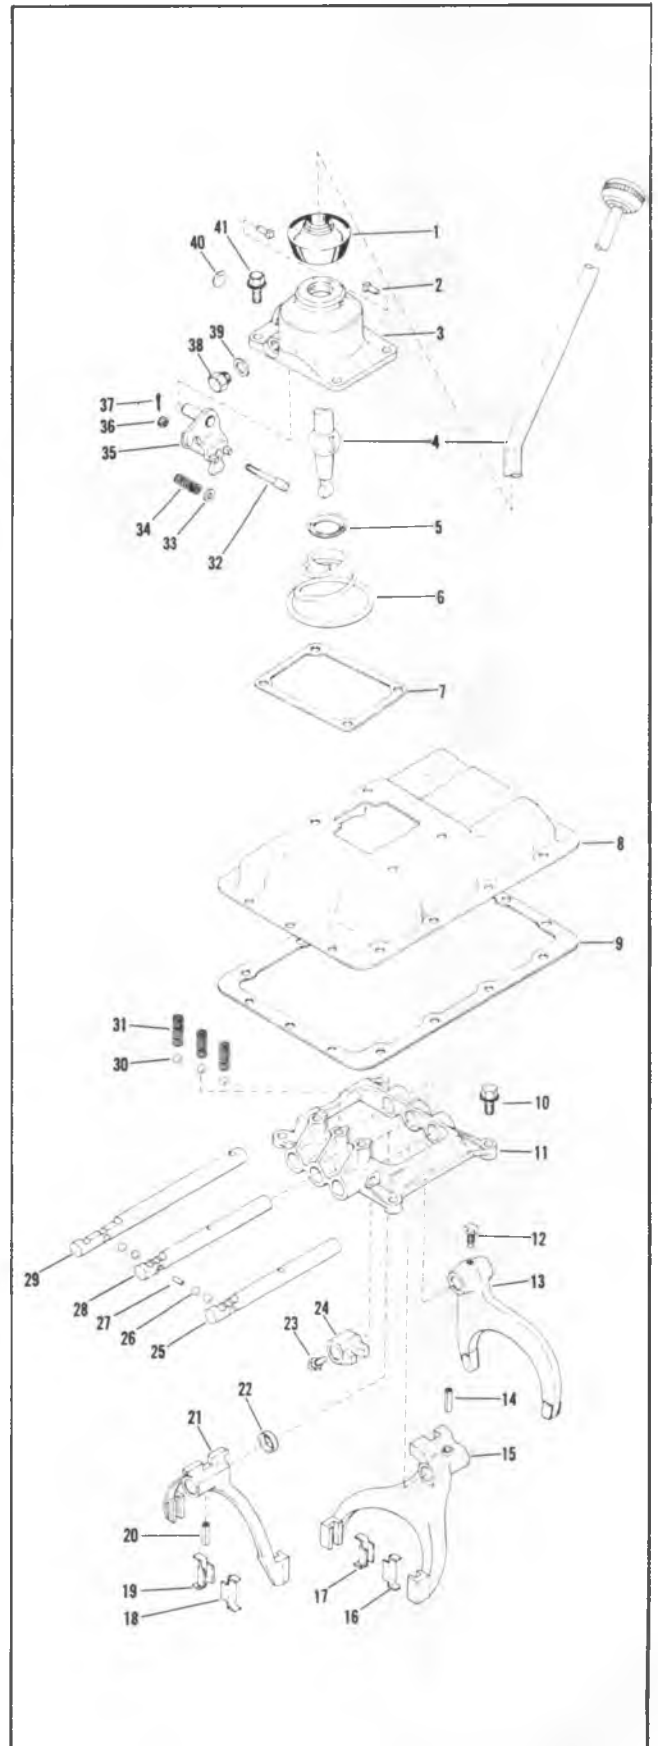

Fig. 2N--Cover Explode
##### Removal (Fig. 2N)
3. Remove shift rod support assembly retaining bolts and assembly from case (fig. 2N).